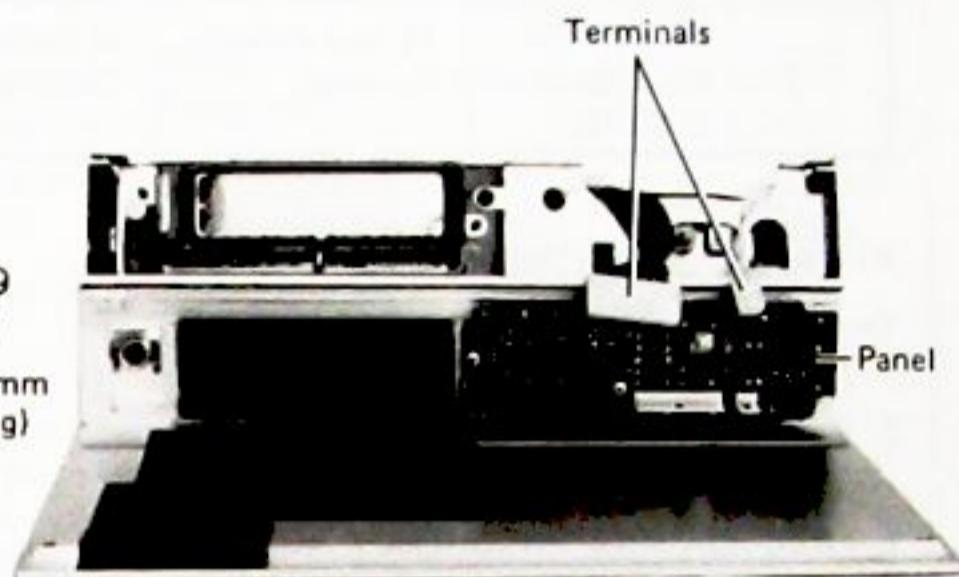

Figure 11.
3. Remove 2 terminals connecting the Panel to the Set. See figure 11.